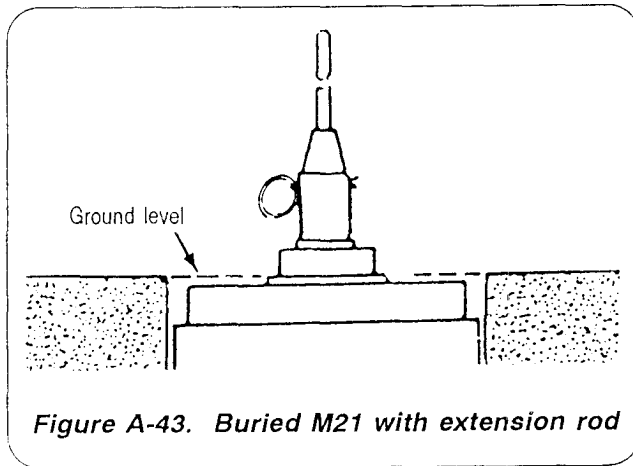

Figure A-43. Buried M21 with extension rod
a. Dig a hole deep enough so the top of the mine will be at ground level (Figure A-43).